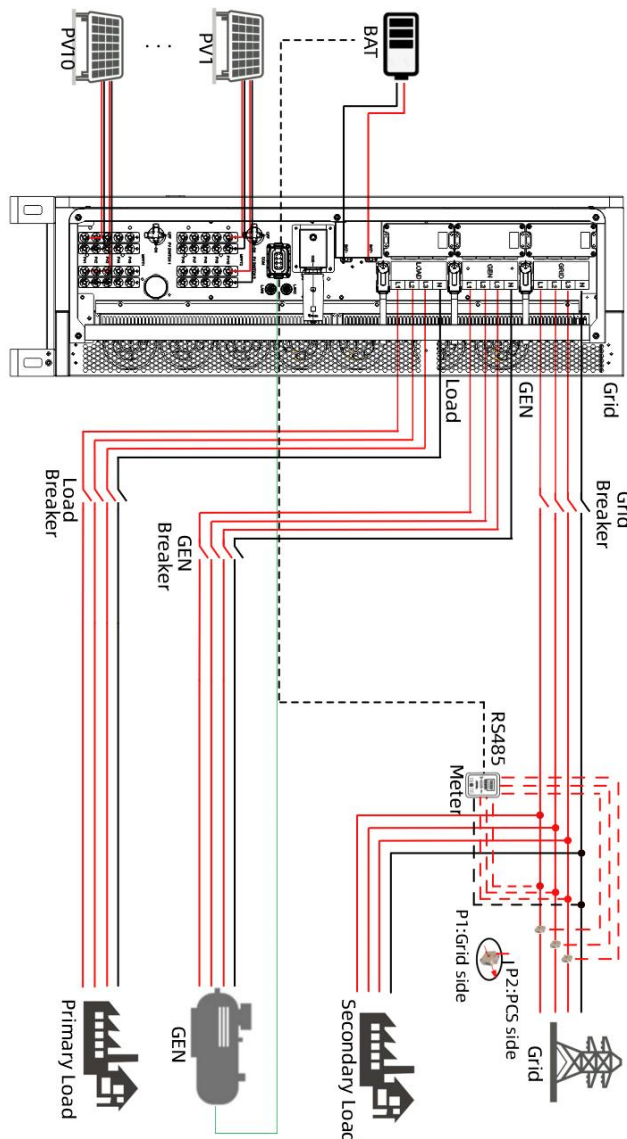

Fig 6.1 Wiring diagram of the system with a single WIT 125K-XHU inverter (Gen mode)
4. The position of the ground points of the WIT 50-125K-XHU hybrid inverter is shown in fig 6.1. You can find the ground points after removing the right cover plate.